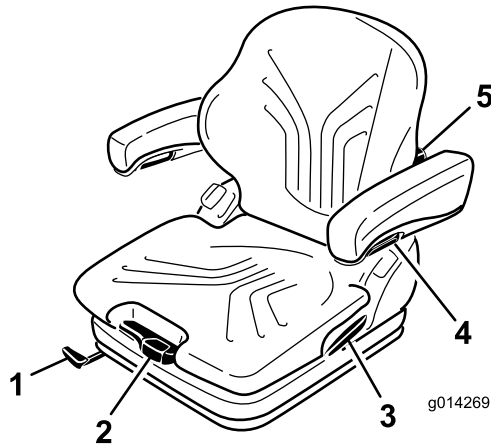

Figure 22
By turning the adjustment knob upwards, the curvature in the upper part of the backrest cushion can be adjusted. By turning the knob downwards, the curvature in the lower part of the backrest cushion can be adjusted (Figure 22).
The seat is adjusted for the driver's weight by pulling or pressing the weight adjustment lever (Figure 22).
1. To adjust, lift the lever to unlock the seat (Figure 22).
To adjust the armrests for height, separate the round cap (Figure 22) from the cover, loosen the hexagon nut (13 mm) behind it and adjust the armrests to the desired position and tighten the nut. Replace the cap onto the nut.
To adjust the angle of the armrests, turn the adjustment knob (Figure 22).
Pull up the locking lever to release the backrest catch (Figure 22). When releasing the backrest catch, do not apply load to the backrest by pressing against it.